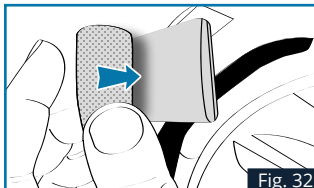

Fig. 32
3. Affix the foam cushioning present in your Sena FOR SHARK kit (Bluetooth or Mesh) to the back of the battery of your Intercom Fig. 32.